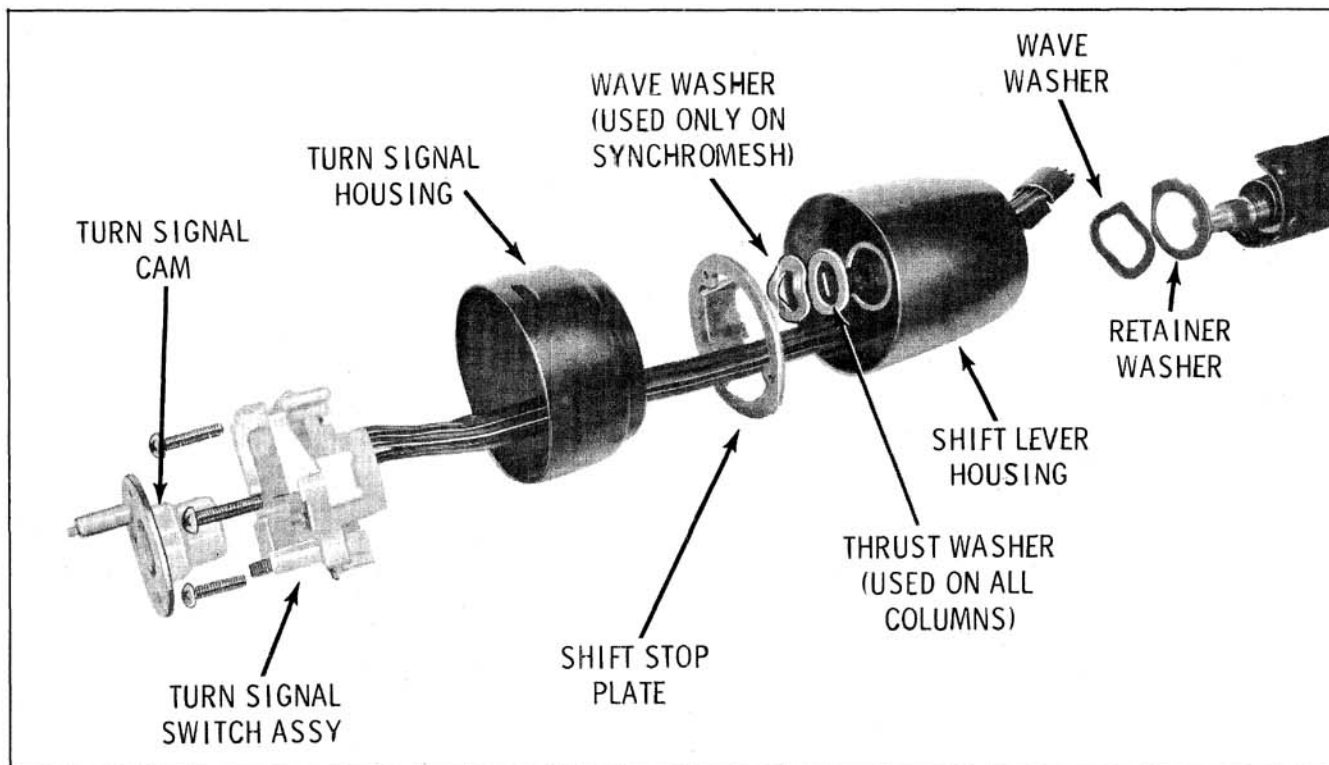

Fig. 8-84 Upper Column Parts
2. Remove the three turn signal switch attaching screws and remove the parts shown in Fig. 8-84.
3. Install retainer washer, wave washer, shift lever housing, upper thrust washer and wave washer. (Fig. 8-84)